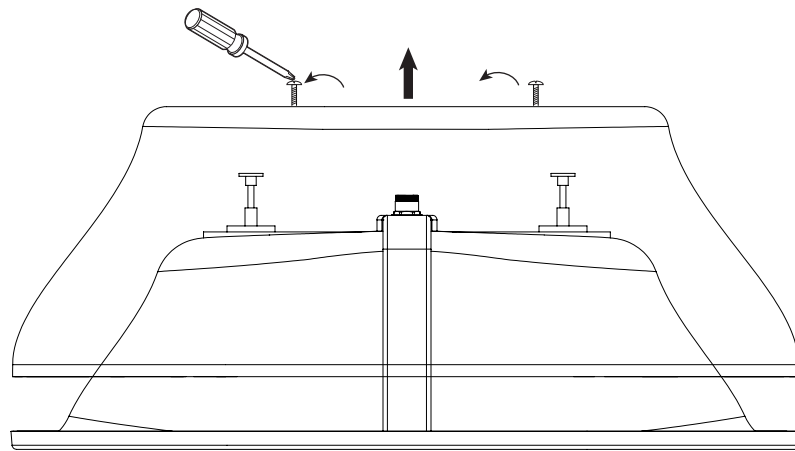

Figure 8
3. Detach screws at the bottom of the tub using a Phillips screwdriver. Then carefully separate the outer shell from the inner shell and discard screws. (See Figure 8)